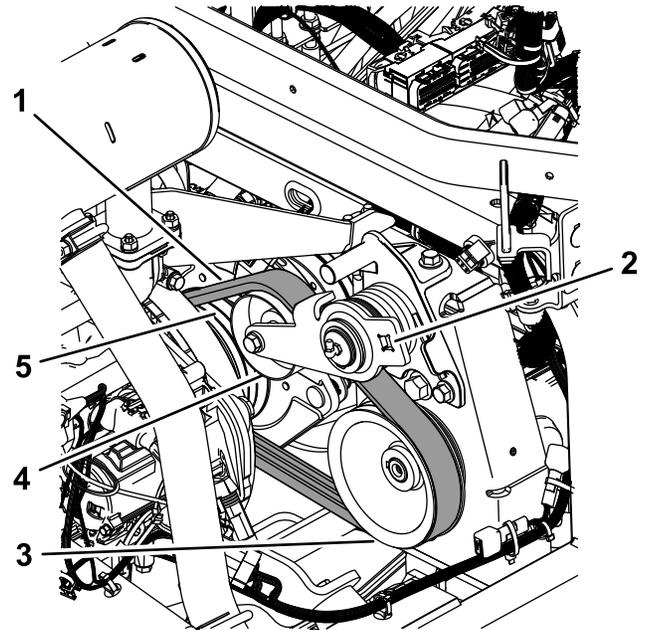

Figure 79
3. Route the belt on the engine pulley, idler pulley, and pump pulley (Figure 79).